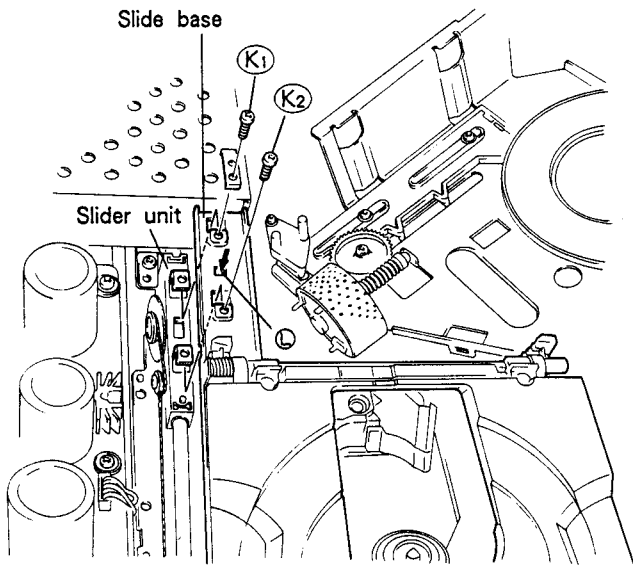

Fig. 2-3.
3. Remove the fixing screws $\textcircled{K}_1$ and $\textcircled{K}_2$ of the tray assembly and remove the slide base from the slider unit of the loading mechanism assembly by pushing the claw $\textcircled{L}$. (Refer to Fig. 2-3).